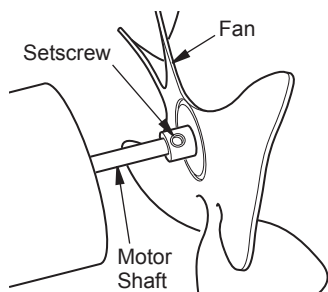

Figure 6 - Fan, Motor Shaft, and Setscrew Location
IMPORTANT: Remove fan from motor shaft before removing motor from heater. The weight of the motor resting on the fan could damage the fan pitch (see Figure 6).
2. The fan is located with the set screw in contact with the back of flat on motor as shown in Figure 6.
3. Use 1/8" Allen wrench to loosen setscrew which holds fan to motor shaft (see Figure 6).